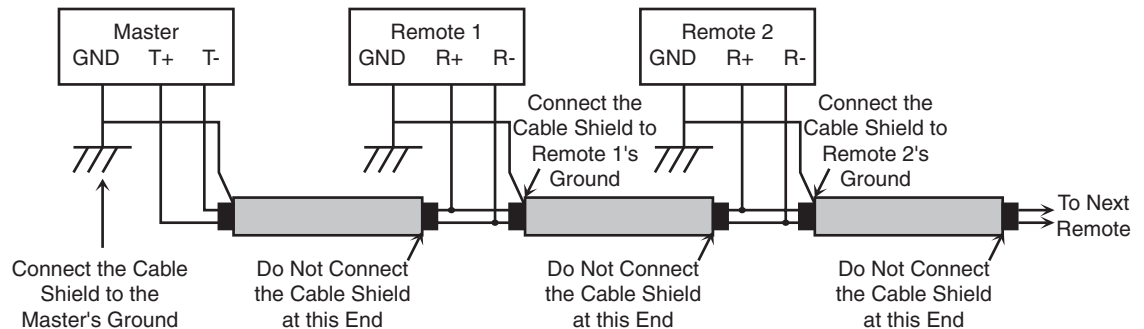

Figure 4-3: Communication Shielding With All Units Earth Grounded
- earth grounding all units (see figure 4-3 on page 11)
With the wall mount latch in the unlocked position, swing the body of the HandReader up and rotate the key away from the wall. Hold the top of the HandReader firmly against the wall and rotate key towards wall, locking the latch into place (see Figure 4-3).